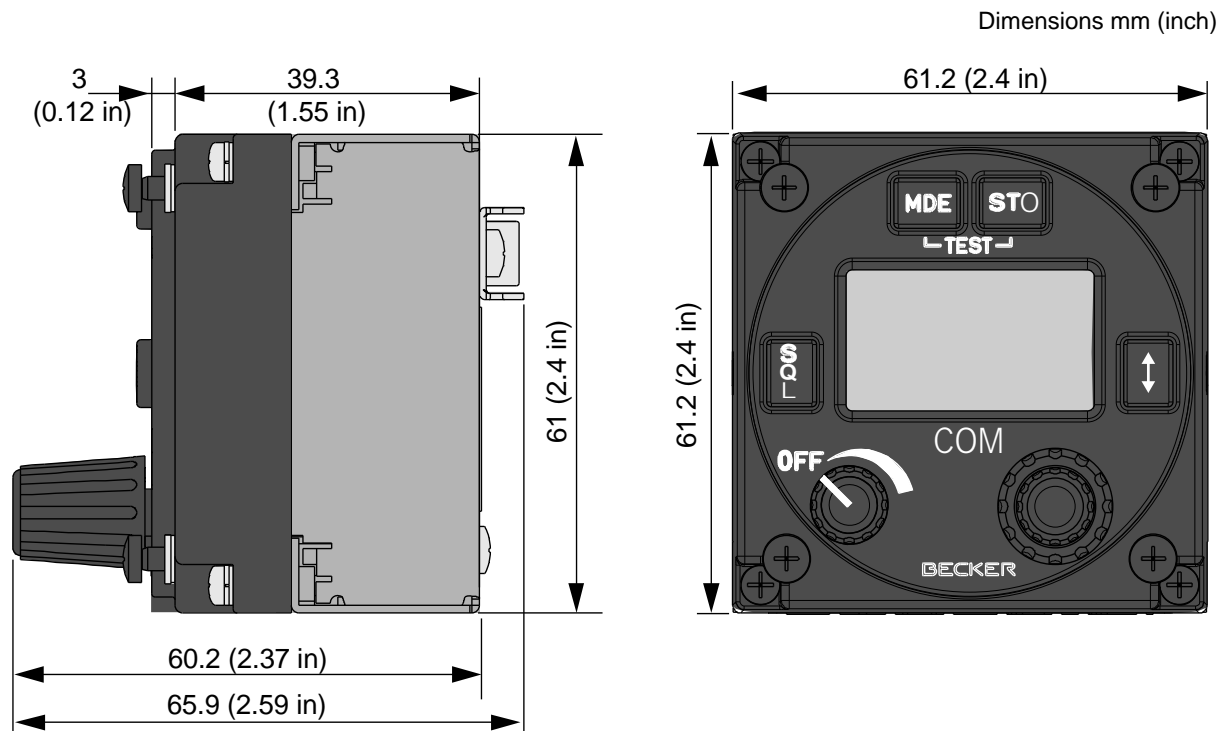

Figure 6: RCU6512-(XXX)
- For dimensions refer to Figure 6: RCU6512-(XXX).